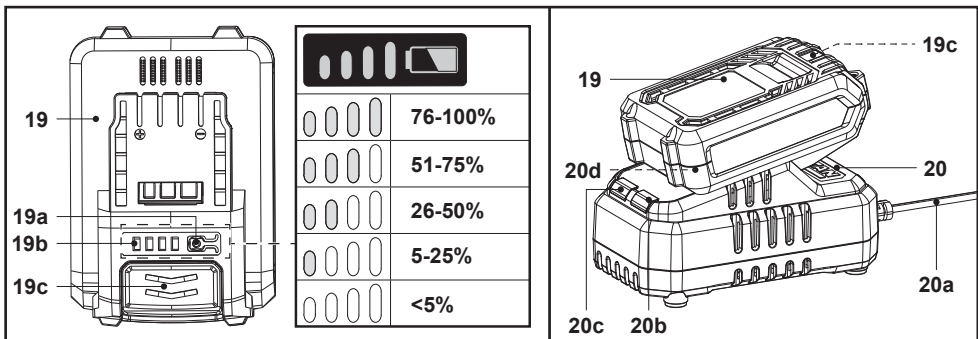

Fig. 3
1. Press the battery capacity button (19a) (Fig. 3).
2. The LEDs of the battery capacity indicator (19b) will stay lit for approximately 10 seconds (Fig. 3).
4. When the charging is completed: Hold the charger (20) in position with one hand. Press the release button (19c) and slide the battery pack (19) out (Fig. 3).